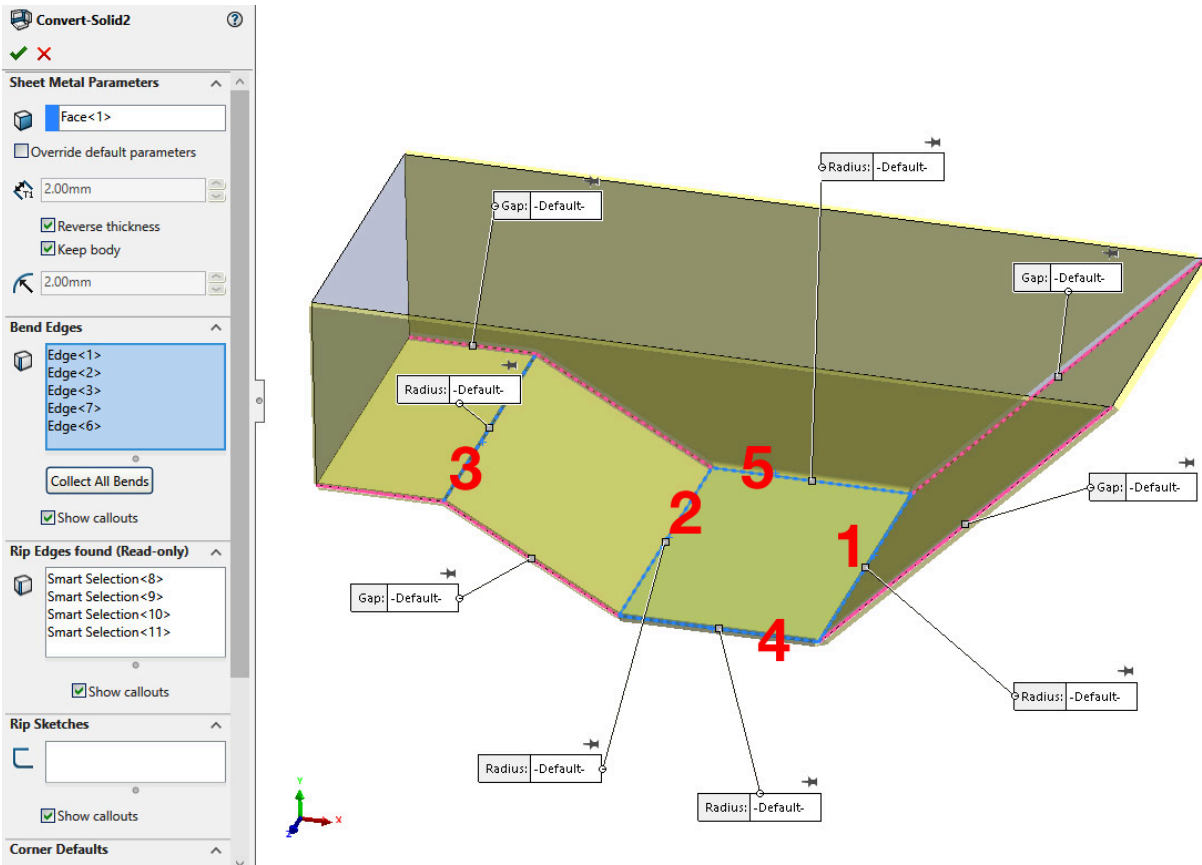

Figure 12.17: Select the Bend Edges shown
- Ensure that the **Keep body** and **Reverse thickness** options are still both selected but adjust the **Bend Edges** so only the five edges shown in *Figure 12.17* are selected.